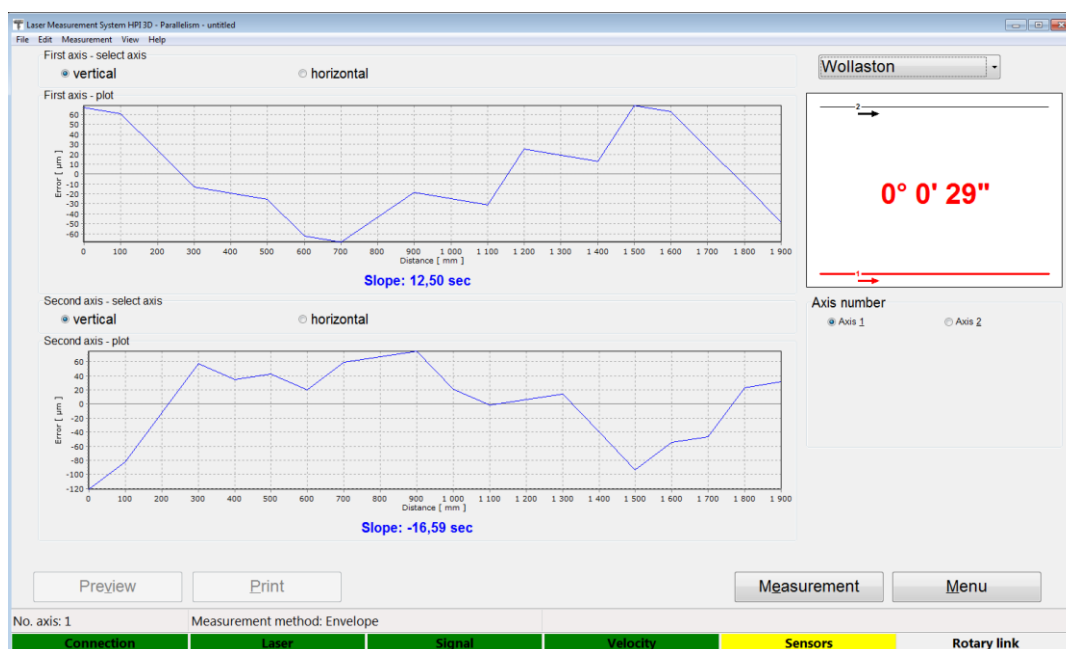

FIG.11.1. AN EXEMPLARY PARALLELISM RESULTS
The parallelism measurement is used to characterize the measured machine geometry, i.e. the parallelism of axes. The measurement is performed using 3D or Wollaston straightness technique. In order to obtain the proper results, two measurements with the use of a right angle etalon are necessary. From obtained axes straightness data the parallelism is calculated and drawn (fig.11.1.).
9. When straightness of all axes is measured then the Back button should be pressed. The software returns to the Parallelism Summary screen – see figure 11.1